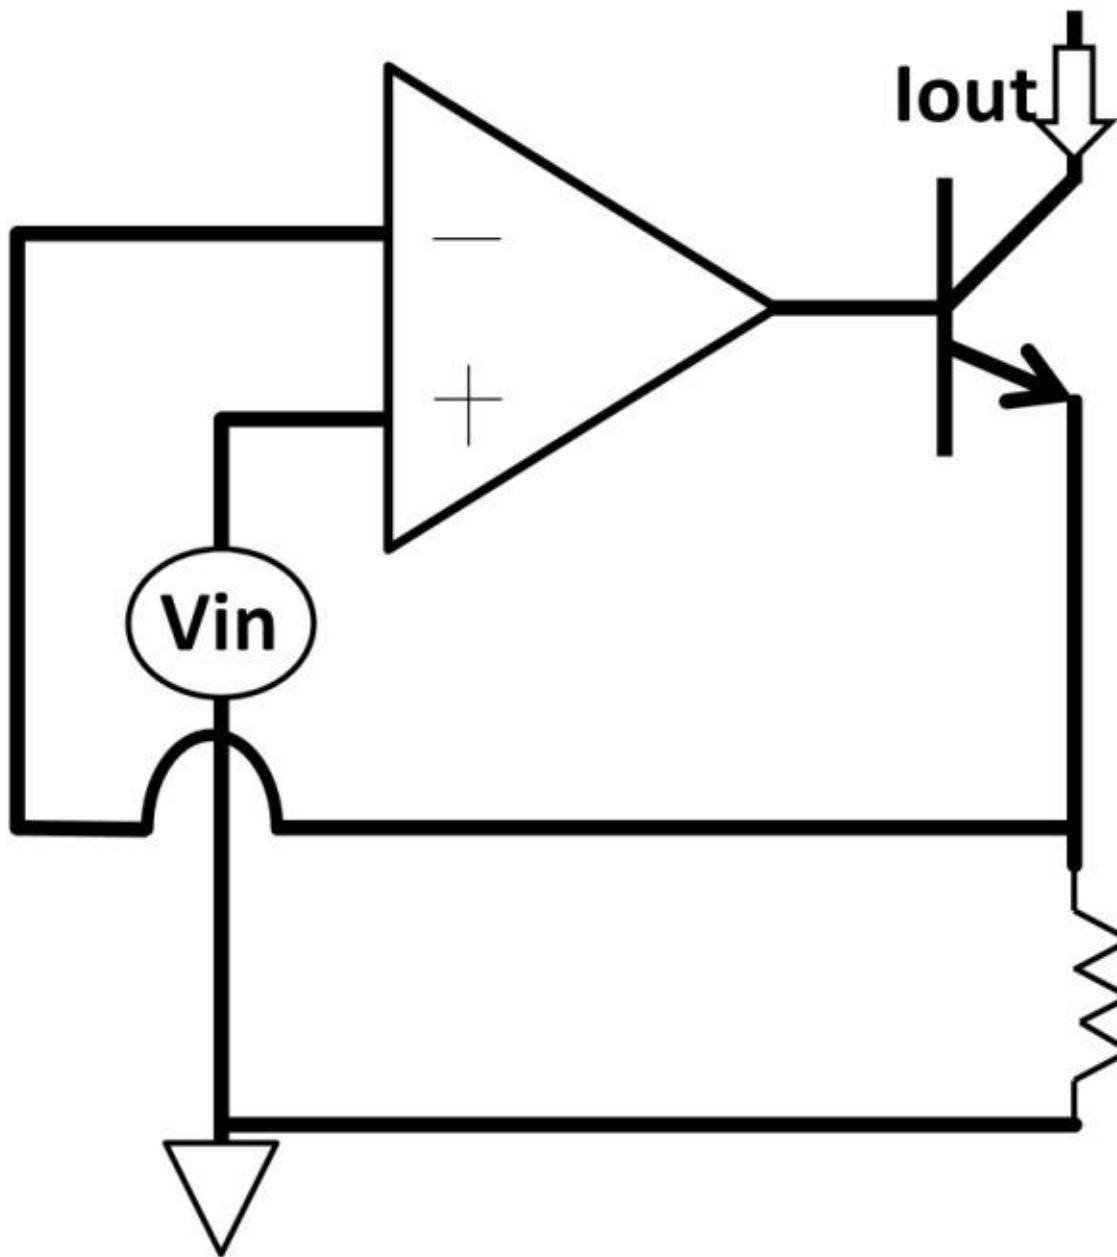

Figure 4.98:
3) $V_{in} = 5\text{ V}$, $R = 1\text{ k}\Omega$. Calculate 1) Output current (I_{out}), 2) NPN base voltage. $V_{BE} = 1\text{ V}$. Hint: $I_B = 0\text{ A}$. Op-amp is connected as a voltage follower (see figure 4.98).